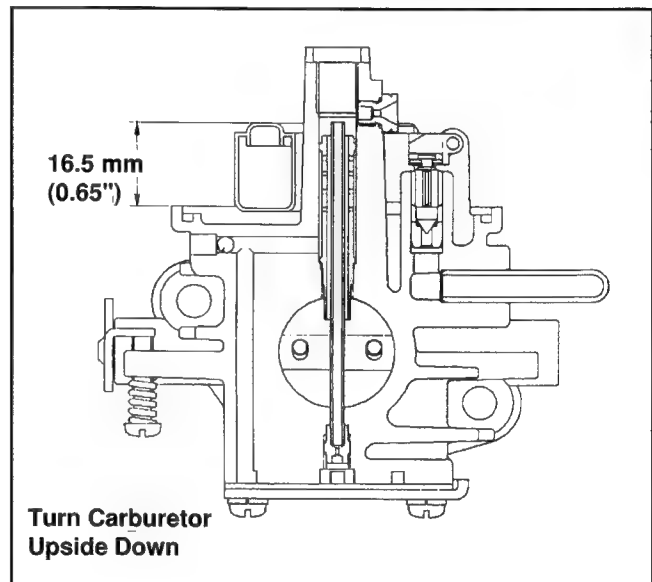

Figure 5-6. Proper Float Level.
- Turn the carburetor body upside down and check level of the float as shown in Figure 5-6. With the float needle valve fully seated, 16.5 mm (.65") should be measured from the body to float as indicated. Don't attempt to adjust by bending the tab -- replace float with kit if level is wrong.